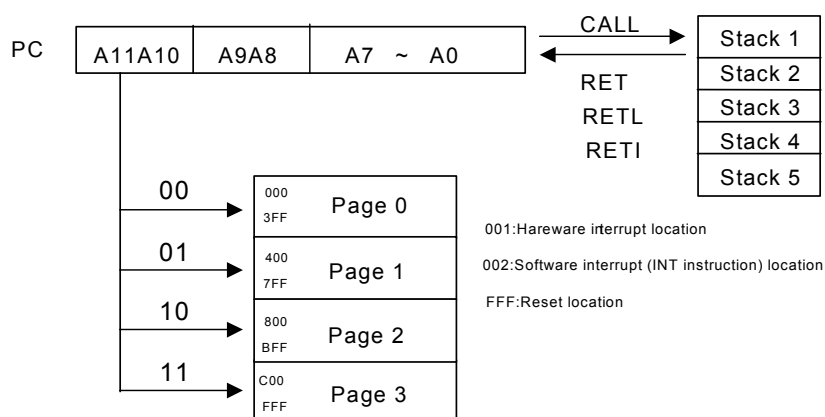

Fig. 3 Program Counter Organization
- The structure is depicted in Fig. 3.